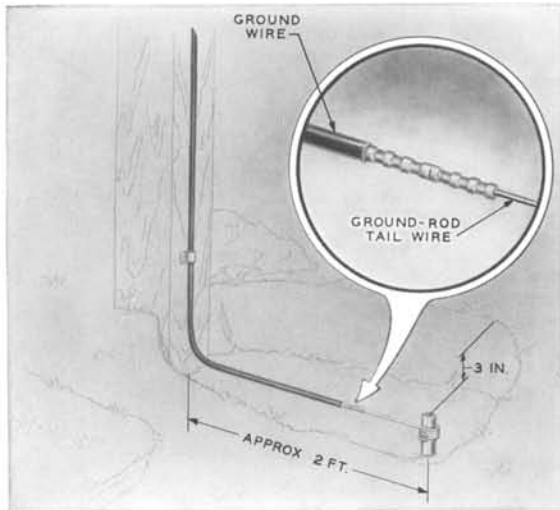

FIG. 5—GROUND ROD INSTALLATION NEAR WOODEN POST
- Approximately 2 feet from base of wooden poles or posts, where conditions permit (see Fig. 5).